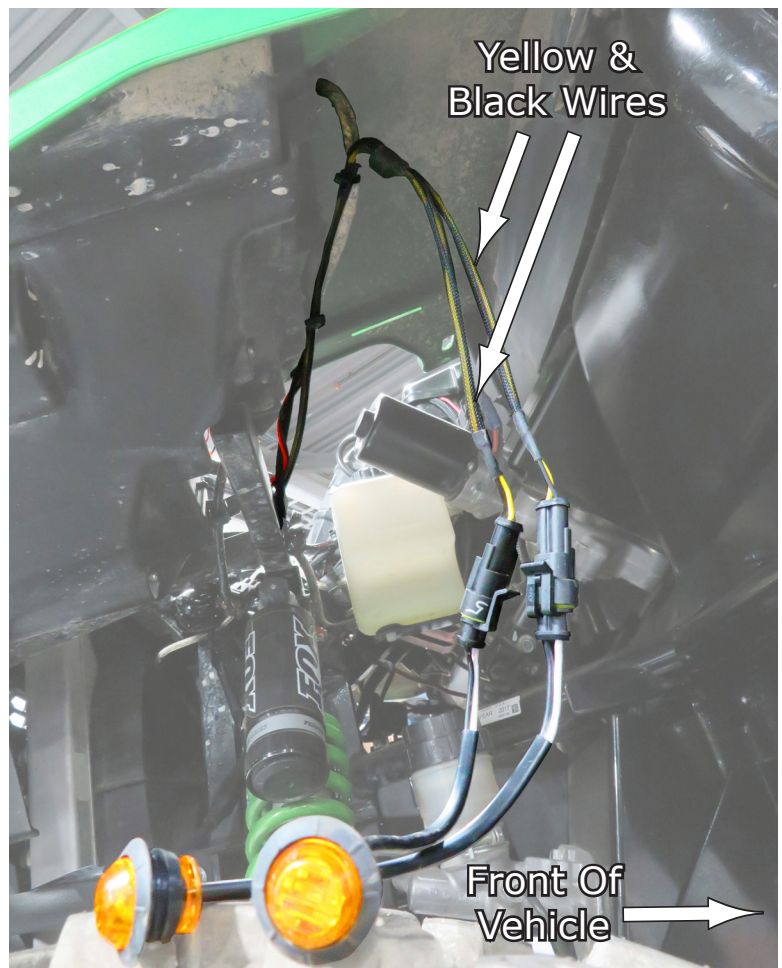

Fig.10
11. As you can see, the Yellow & Black wires are for your LED lights and are routed towards the wheel well for you to pick your desired locations and install them. See **Fig.10**.